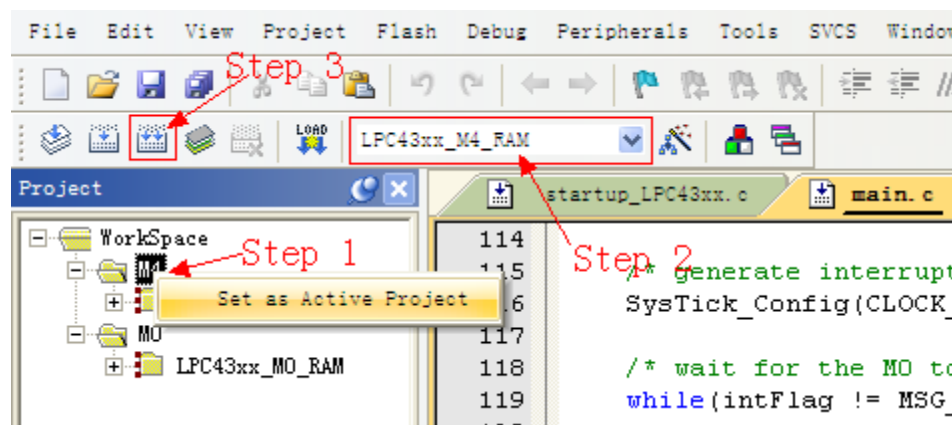

Figure 3-24
(2) Choose “M4” in “Set as Active Project” and “LPC43xx\_M4\_RAM”, and then recompile the program. Refer to figure 3-24: